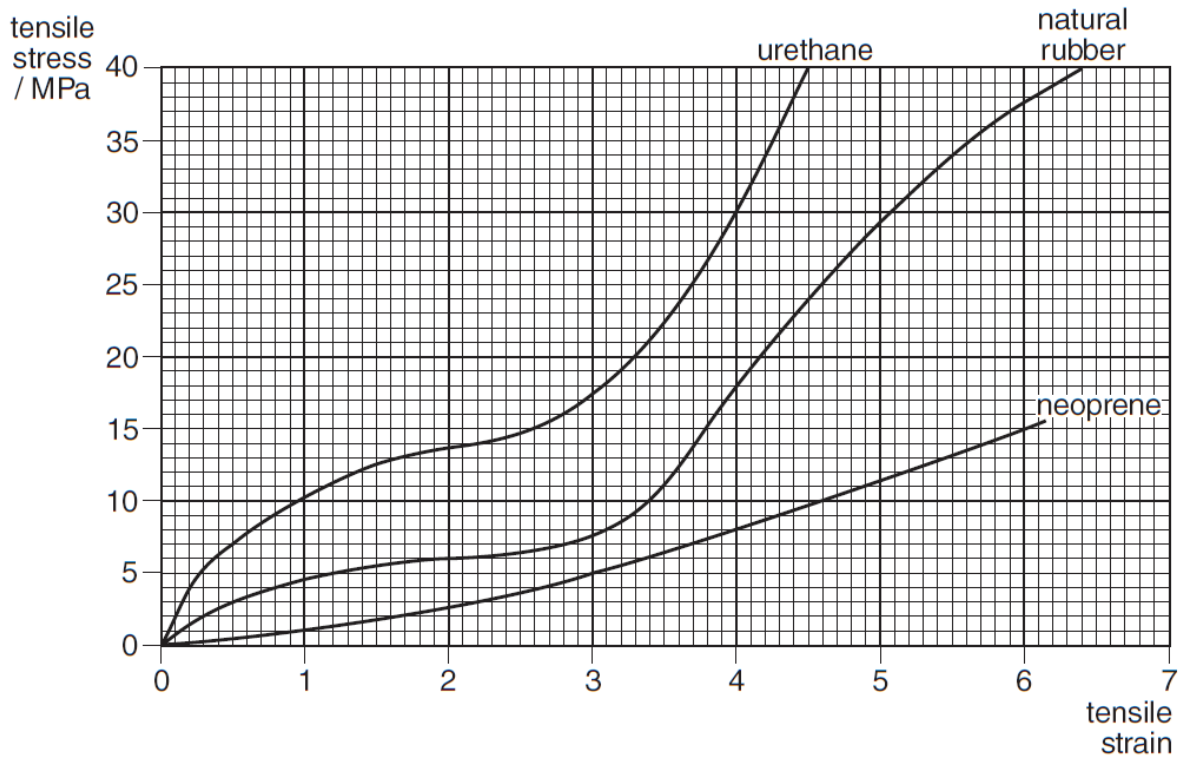

Fig. 8.1
- (a) Fig. 8.1 shows the stress-strain curves for three elastomers: urethane, natural rubber and neoprene.
- (ii) Use the graph of Fig. 8.1 to find the area of cross-section of this **natural rubber** cord while it is stretched by the 30 N load.